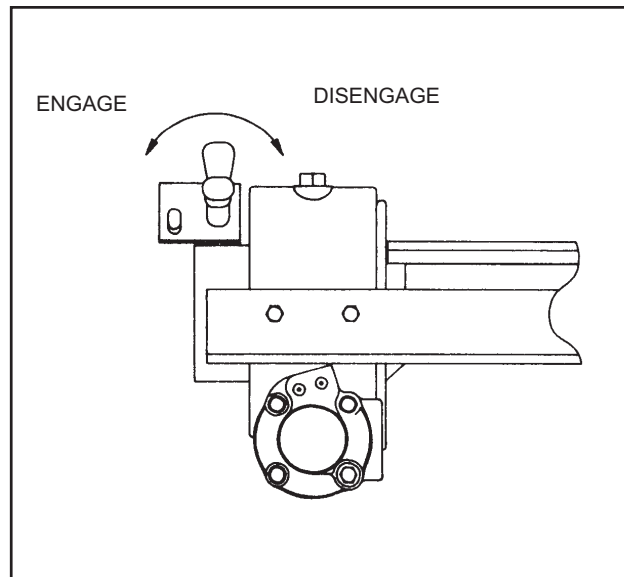

Figure 3-9 20,000# Winch Clutch
b. The **20,000 lb WINCH CLUTCH HANDLE** has two positions. (See **Figure 3-9**).